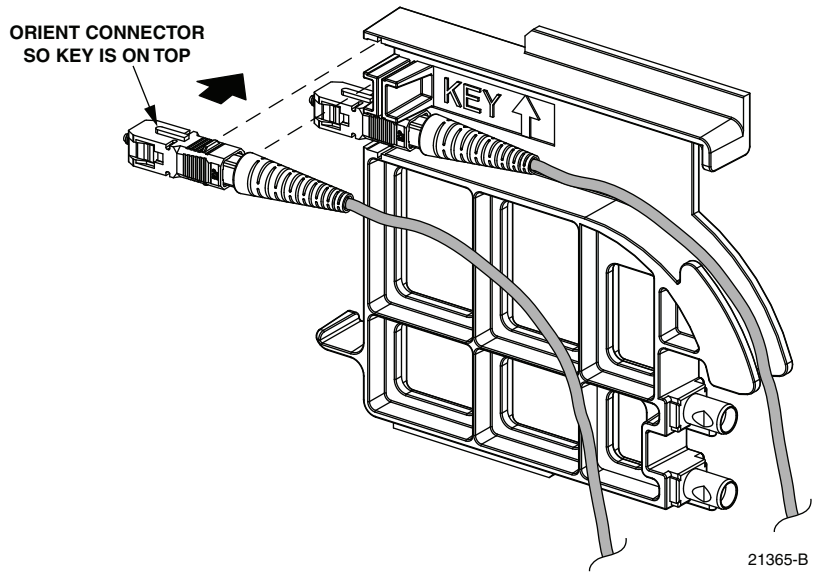

Figure 73. Installing Patch Cord Connector in Dust Cap Assembly
8. Install the patch cord connector in the dust cap assembly as shown in Figure 73.